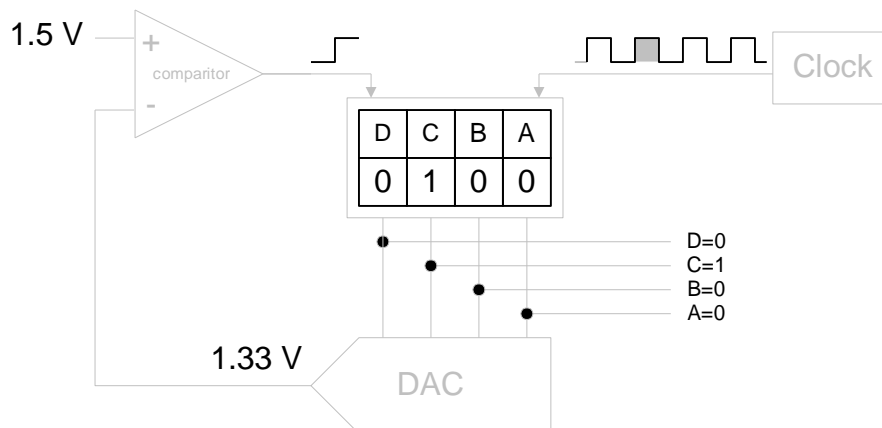

Figure 3.
Figure 3. illustrates the second step in the conversion cycle. With the second clock pulse, the C (4) bit is set to 1. The DAC output is now 1.33V. This voltage is less than the V_{in} of 1.5V. The comparator's output goes HIGH, and the 1 bit is retained in the SAR.